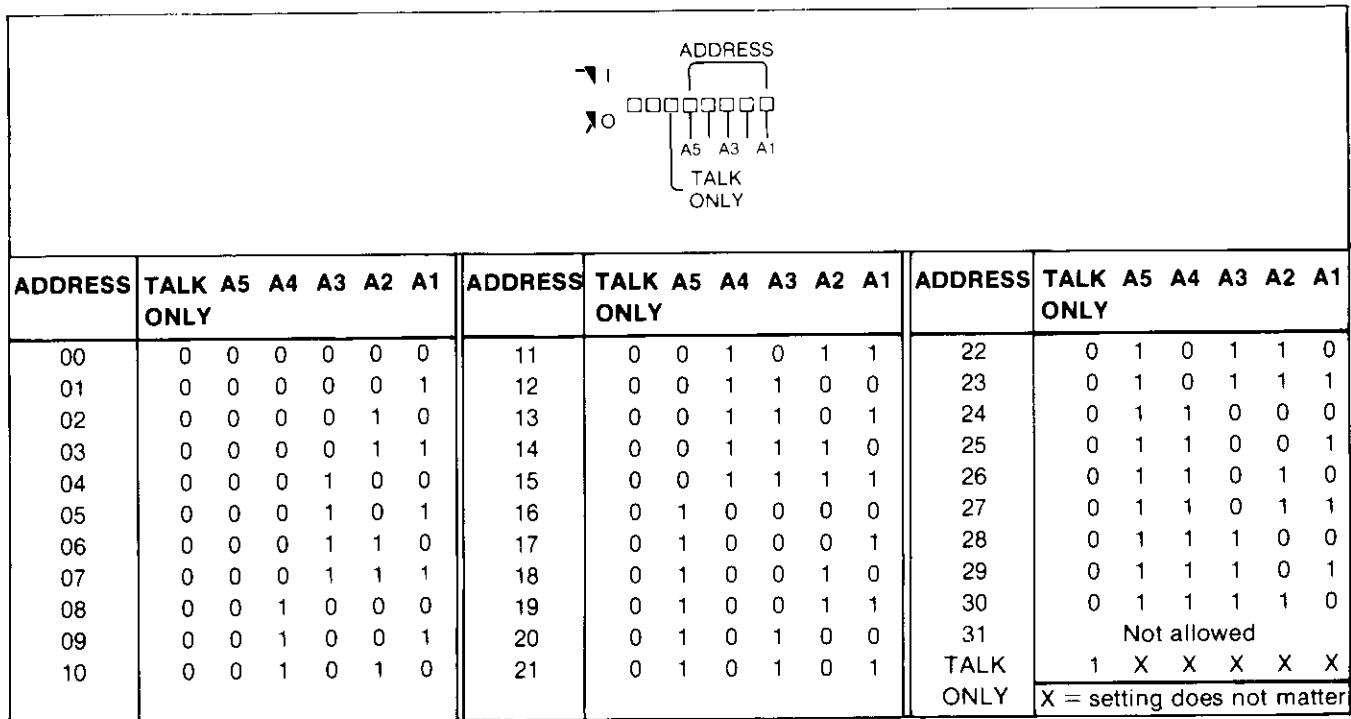

Figure 3-1. IEEE-488 Address Selection
1. Turn the 8840A POWER switch OFF and set the 8840A IEEE-488 address using the rear panel IEEE-488 address switches shown in Figure 3-1.